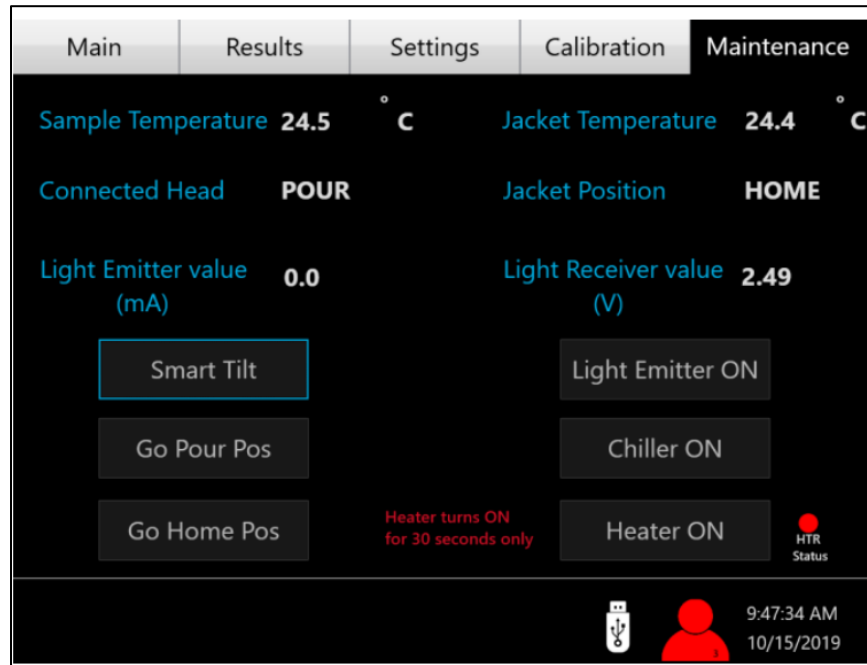

Figure 15. Maintenance Tab
- Maintenance.** The maintenance tab shows the overall instrument performance such as: sample and jacket temperature, which head is connected, jacket position, light emitter and light receiver value. From here the light emitter, chiller or heater can be turned on for general maintenance purposes. Figure 15 below shows all the information you can find in the maintenance tab.